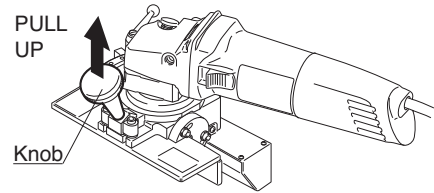

Fig. 15
- (1) Lay down the Knob with it pulled up. (Fig.15, 16)